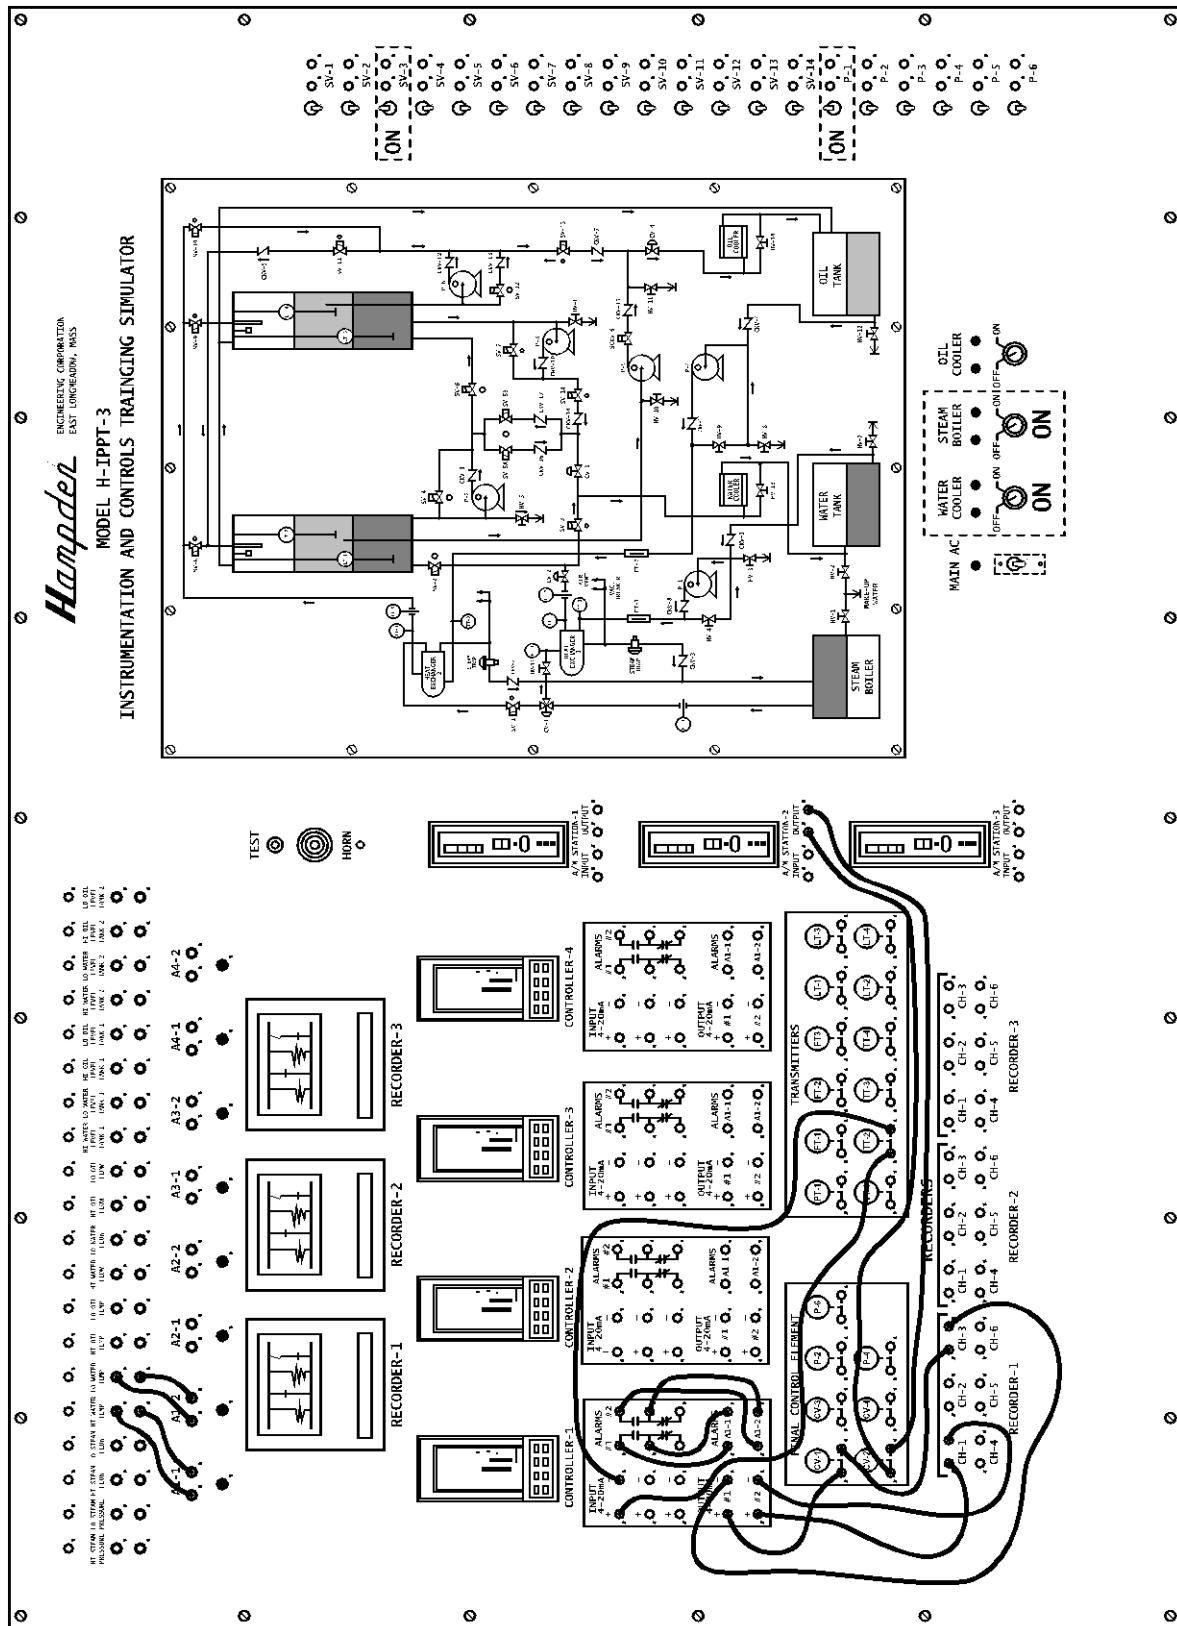

Figure 7
5. Interconnect the process control equipment per Figure 7.